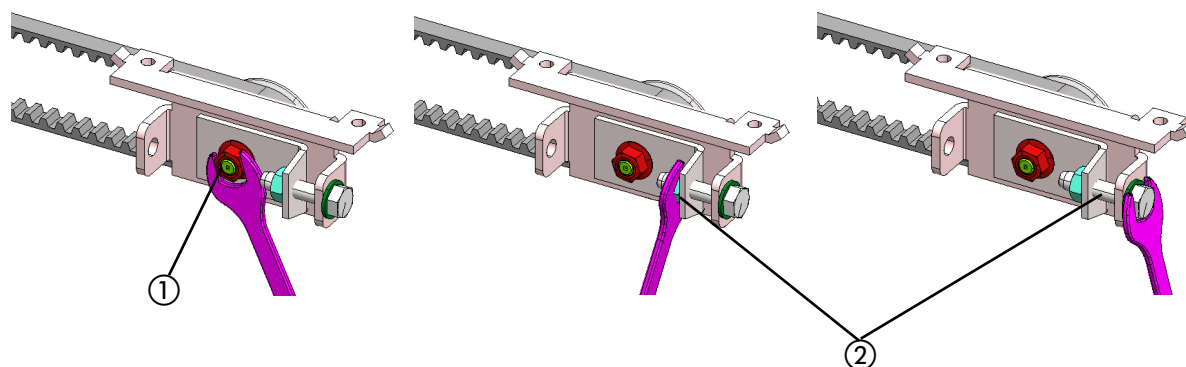

fig. 23
- Loosen the nut (Fig. 23 ref. ①).
- Turn the screw and bolt (Fig. 23 ref. ②) to tighten or loosen the belt.
- After controlling tension, tighten the nut (Fig. 23 ref. ①).